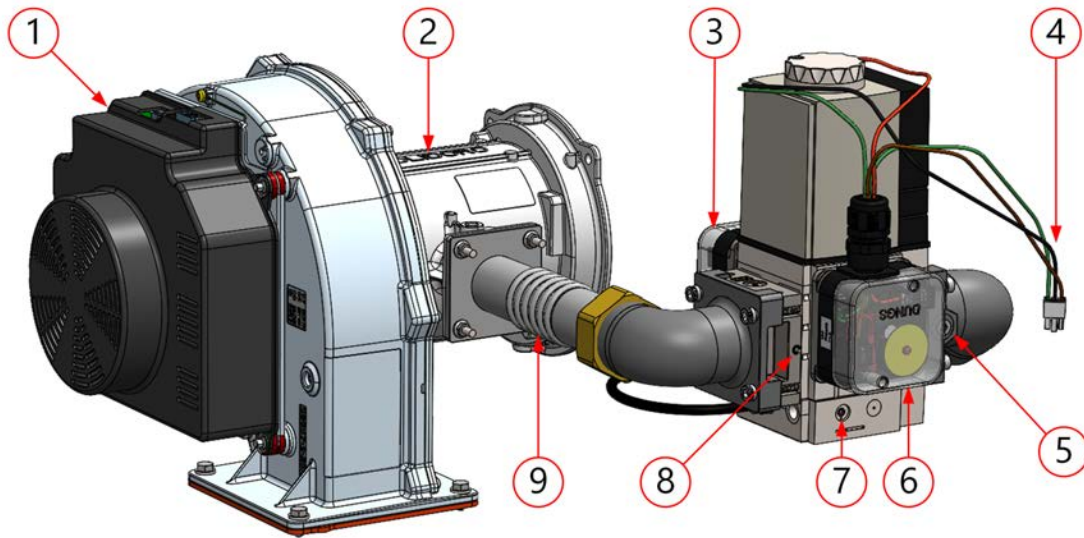

Figure 49 Gas valve and fan components - EX 700, 850
To locate the inlet gas pressure test port on the EX 400 and the EX 500 models, see 7.0 . To locate the inlet gas pressure test port on the EX 700 and the EX 850 models, see Figure 49 .
To perform a gas pressure test, you will need to use the inlet gas pressure test fitting (supplied with the boiler to transition from 1/8" BSP to barbed for connection to a manometer), a 3 mm Allen wrench, and a digital manometer. You will be measuring the inlet gas supply from the test port located to the right of the gas valve (see ④ on Figure 49). Do not perform a test from the manifold gas pressure test port.